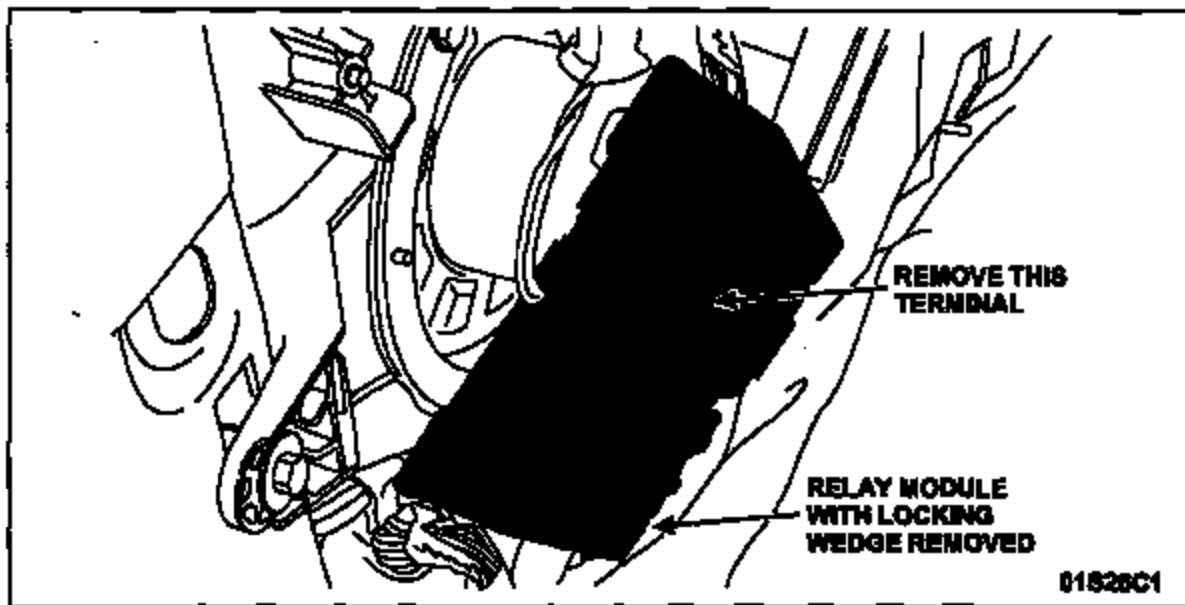

FIGURE 3
13. Remove the relay module cover and both relays from the module. Then remove the relay module locking wedges. See Figure 3.
14. Remove the black wire and terminal from the relay module using a small screwdriver, or similar pick tool, to depress the terminal locking tab. See Figure 3.